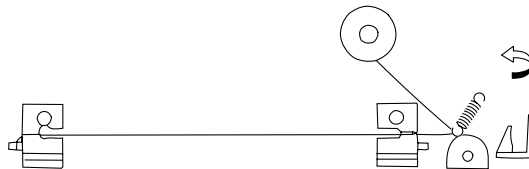

Figure 4-326
- 6) Hook the charging wire on the charging wire positioner at the rear, and hook the charging wire tension screw on the charging wire where indicated in Figure 4-326; then, twist it.